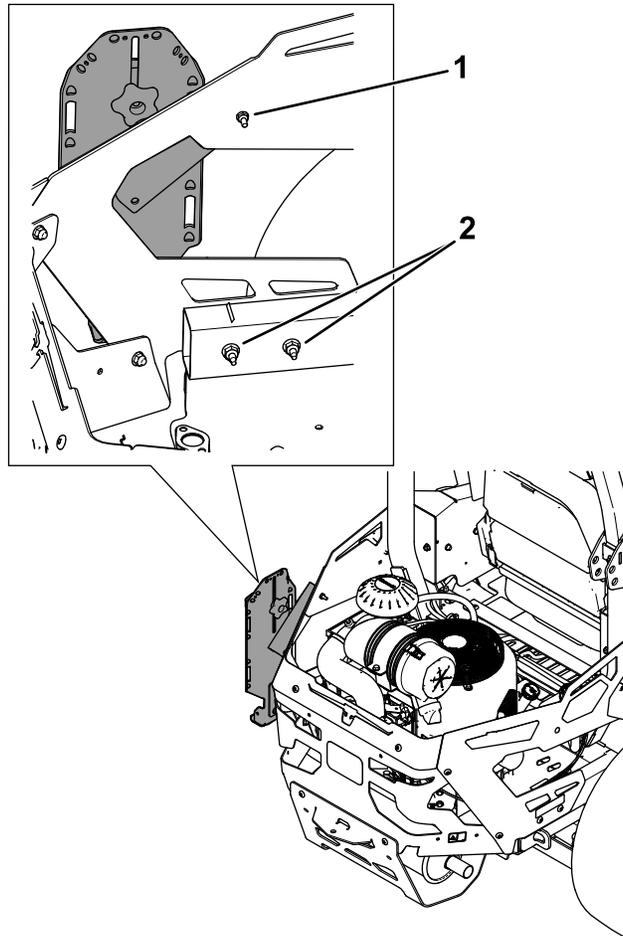
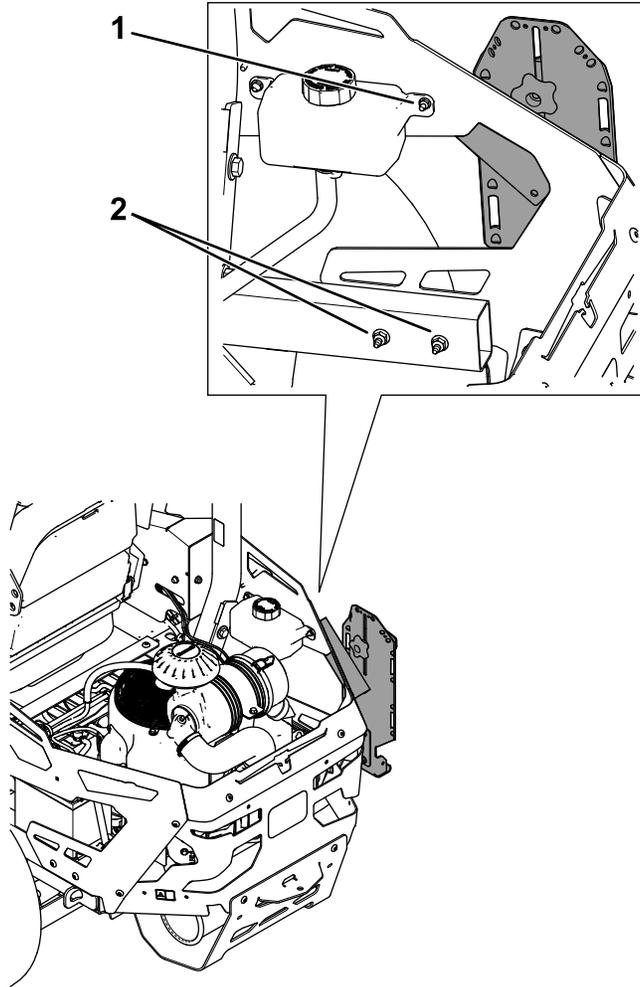

Figure 3
Figure 4
1. Secure the mount assembly to the side rear guard using 1 carriage bolt (1/4 x 1 inch) and 1 nut (1/4 inch) as shown in Figure 3 or Figure 4.
2. Secure the bottom of the main bracket to the lower side rear guard using 2 bolts (5/16 x 3 inches) and 2 nuts (5/16 inch) as shown in Figure 3 or Figure 4.